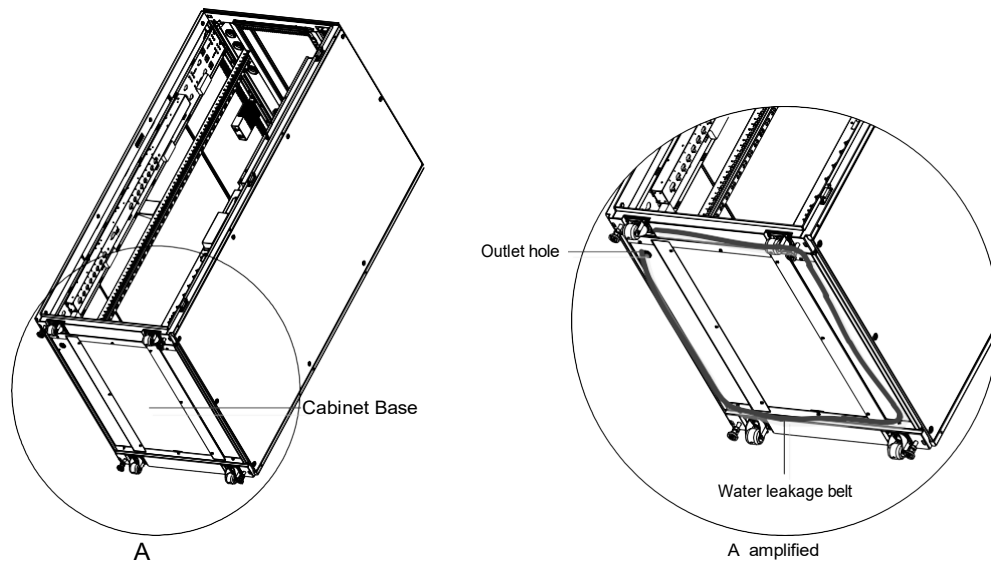

Figure 2-29 Installing the cable water leak sensor
3) Place the test strip in the bottom area of the cabinet, as shown in Figure 2-29.